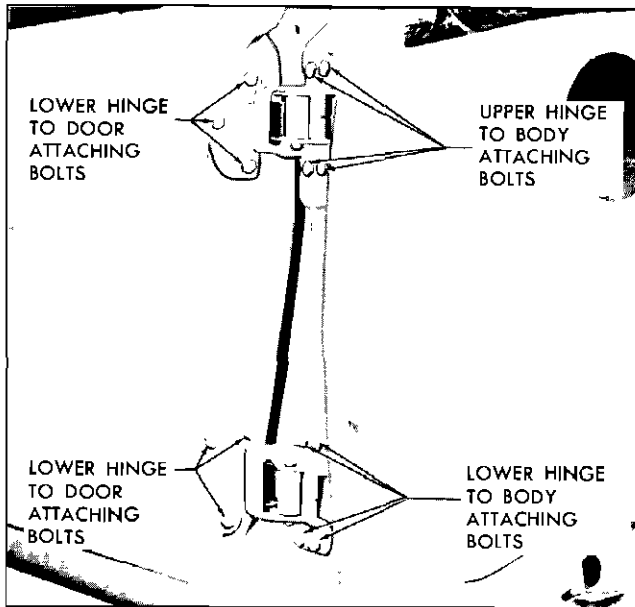

Fig. 2-13 Door Hinge Attachment
pillar or door hinge pillar. Then with aid of helper remove door assembly from body (See Fig. 2-13).
loosen hinge to door pillar attaching bolts (Fig. 2-13). Adjust door as required and tighten bolts.
2. Fore and aft adjustment of front doors is obtained at door hinge strap to body hinge pillar on all body styles (Fig. 2-13). Access to the body hinge strap attaching bolts is complicated by closeness of front fender to body hinge pillar.